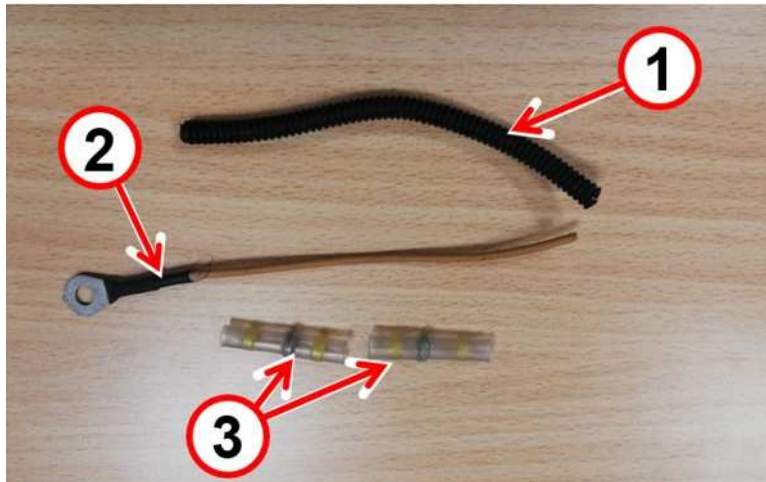
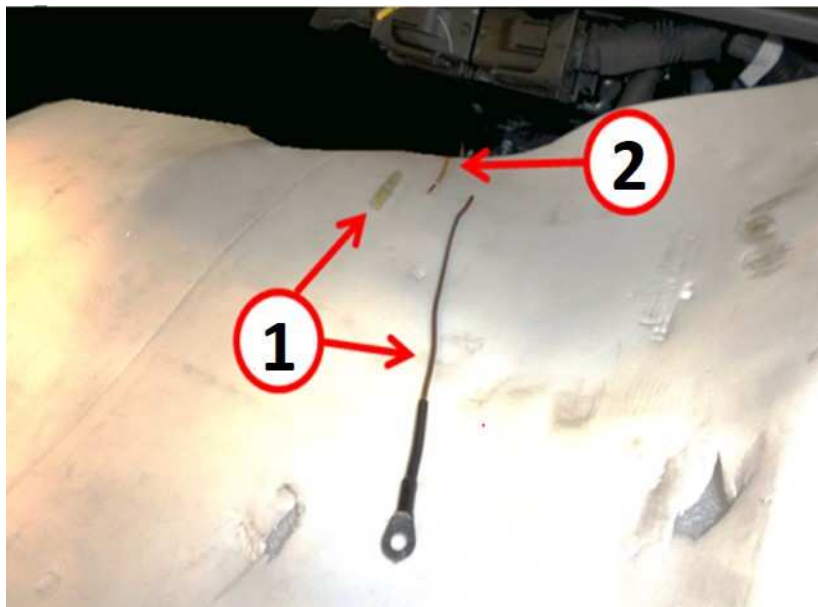

Fig. 4
Fig. 5
- Use the kit containing the following parts: (Fig. 4) .
3. Proceed to use the components from the kit (Fig. 4) with the wire for the solenoid energizing connector removed from the wiring (Fig. 5) .